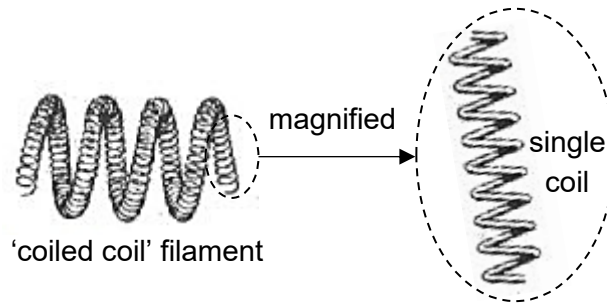

Fig. 4.3
- (iv) The filament is a 'coiled coil' as shown in Fig. 4.3. To form the filament, the tungsten wire is first made into a single coil. The single coil is then further coiled to form the coiled coil.